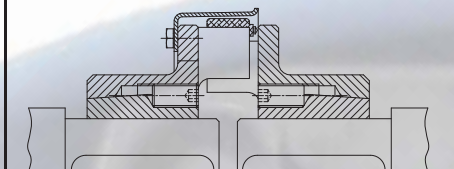

Fig.3
4. Slide the element hub with inserted taper bush onto the cleaned shaft with key. Put it into the mounting position and tighten it uniformly according to Fig. 3 and Table 1.